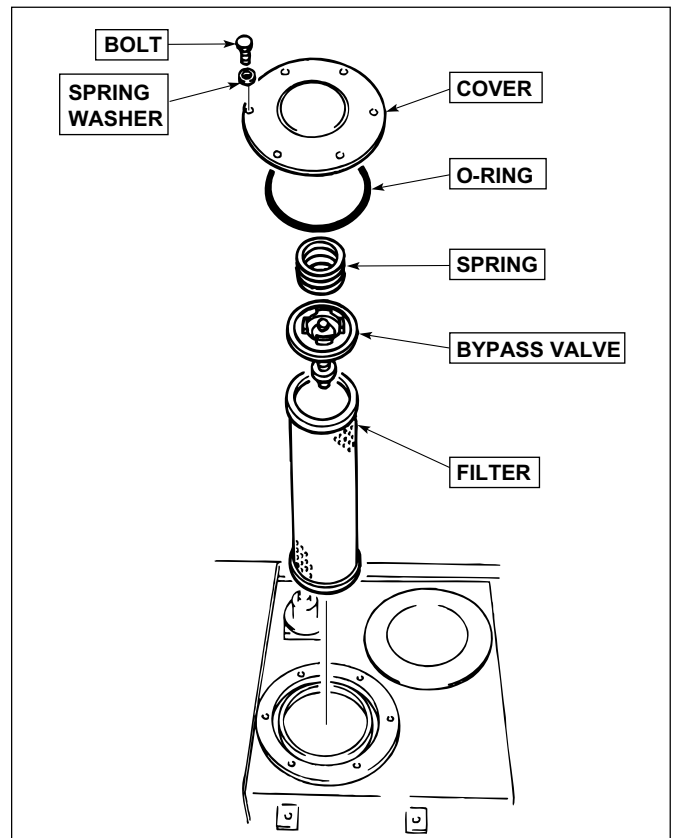

FIGURE 4.30C
3. Remove "O"-Rings, filter springs and bypass valves. See Figure 4.30C.
4. Remove the filter from the housing. See Figure 4.30C.